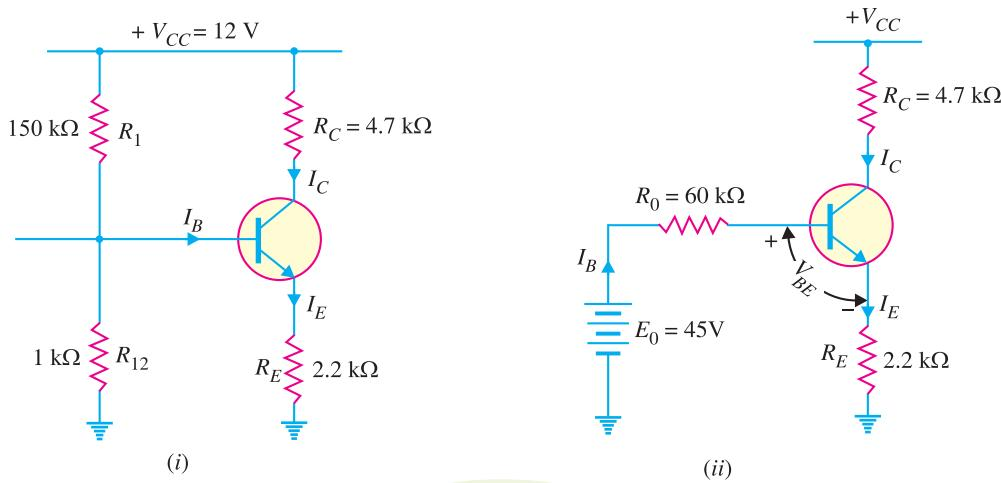

Fig. 9.29
**Example 9.23.** For the circuit shown in Fig. 9.29 (i), find the operating point. What is the stability factor of the circuit? Given that  $\beta = 50$  and  $V_{BE} = 0.7V$ .
**Solution.** Fig. 9.29 (i) shows the circuit of potential divider bias whereas Fig. 9.29 (ii) shows it with potential divider circuit replaced by Thevenin's equivalent circuit.